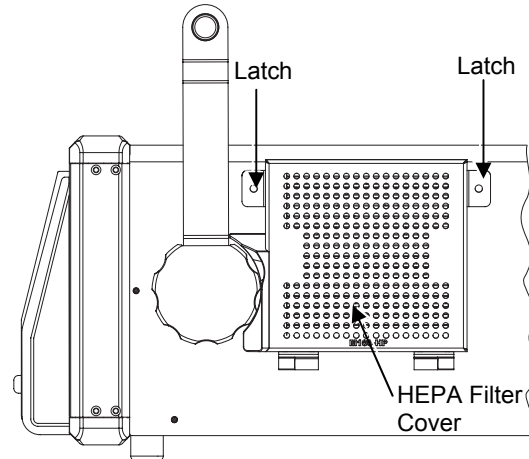

Figure 110 HEPA Filter Cover
3. Using a small pointed tool, push the two latches to fully disengage them and release the HEPA filter cover. See Figure 110.